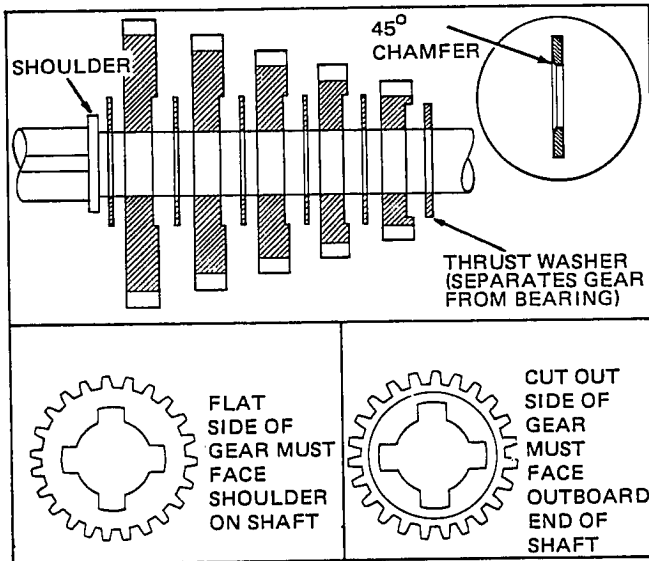

Figure 2-50
3. Install thrust washers and shifting gears on output shaft as shown in the upper view in Figure 2-50. The 45° chamfer in the inside diameter of the thrust washers MUST face the shoulder on the output shaft. See inset in Figure 2-50. The flat side of the shifting gears ALWAYS face the shoulder on the output shaft.
NOTE: The thrust washer on the shift gear end of the output shaft does not have a chamfer on the inside diameter and must be positioned as shown in Figure 2-50. It is thicker than the other thrust washers separating the gearworks from the bearings.